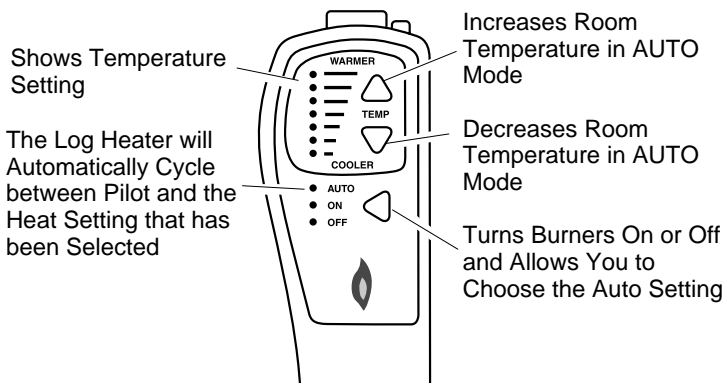

Figure 31 - Thermostat Hand-Held Remote Control Unit Selections (GHRCT Series Only)
- 2b. Press the AUTO/ON/OFF button on the hand-held remote control (see Figure 31, page 16). The lights to the left of the button will show AUTO, ON, or OFF.